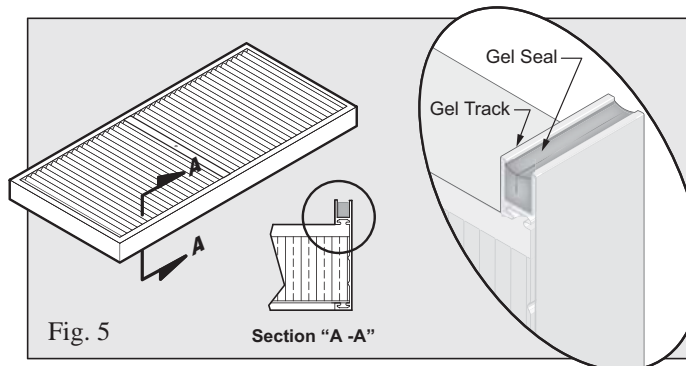

Fig. 5
1. (Fig. 5) Insure adequate gel depth, (within 1/16" from top of gel track).